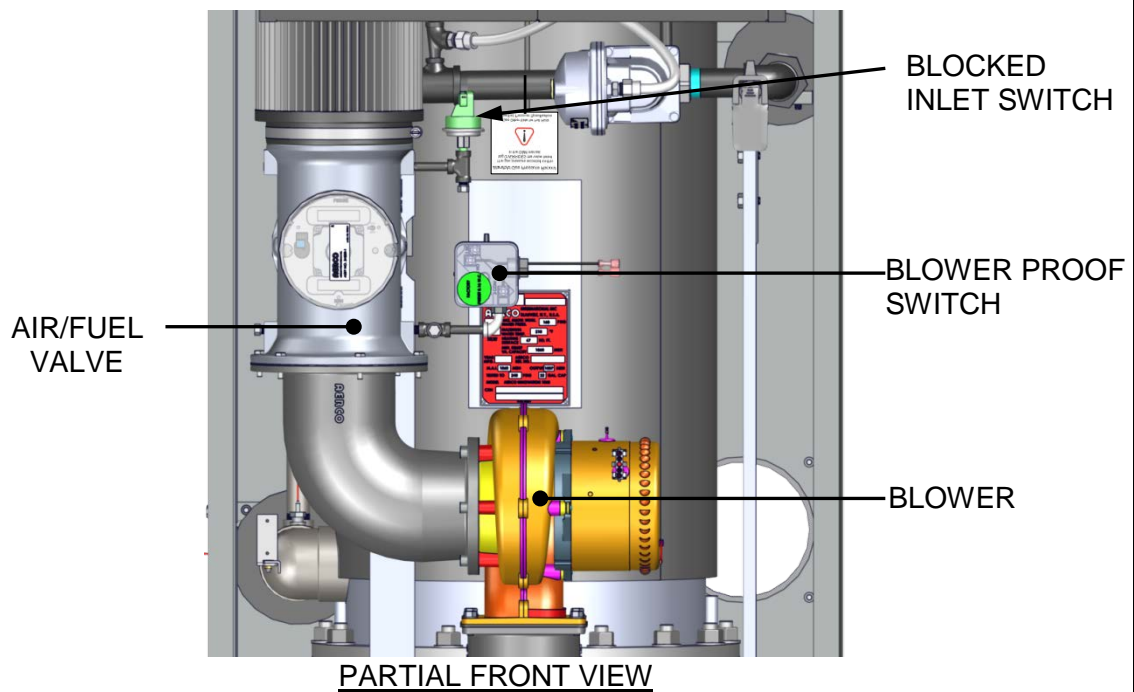

Figure 5-4. Blower Proof & Blocked Inlet Switch Locations
These tests check the operation of the **Blower Proof** switch and **Blocked Inlet** switch shown in Figure 5-4.
10. Next, check the operation of the **Blocked Inlet** switch located on the inlet side of the Air/Fuel Valve (Figure 5-4).